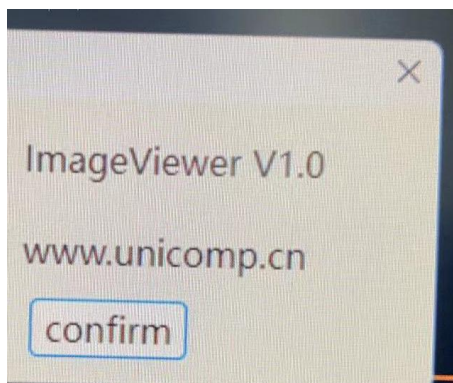

Fig. V-96 About
Click "Help (H)" ->"About" in the menu bar to view information of the Application (Fig. V-96)